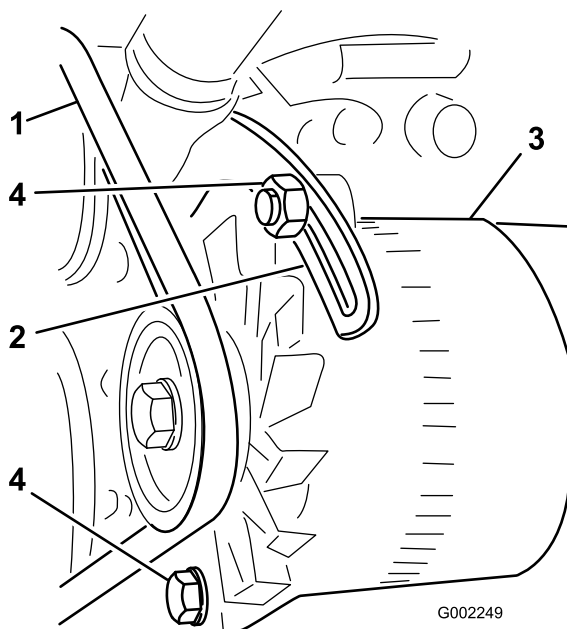

Figure 57
3. Loosen the bolts that secure the brace to the engine and the bolt that secures the alternator to the brace (Figure 57).